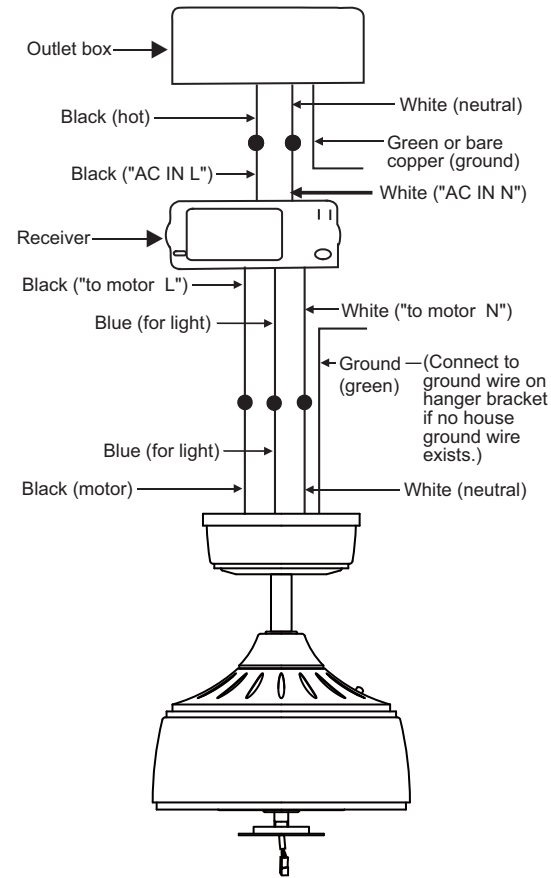

Fig. 14
Step 2. Motor to Receiver Electrical Connections: (Fig. 14) Connect the black wire from the fan to the black wire marked "TO MOTOR L" on the receiver. Connect the white wire from the fan to the white wire marked "TO MOTOR N" on the receiver. Connect the blue wire from the fan to the blue wire marked "FOR LIGHT" on the receiver. Secure all the wire connections with the plastic wire nuts provided.
Step 3. (Fig. 14) Receiver to House Supply Wires Electrical Connections: Connect the black (hot) wire from the ceiling to the black wire marked "AC in L" from the receiver. Connect the white(neutral) wire from the ceiling to the white wire marked "AC in N" from the Receiver. Secure the wire connections with the plastic wire nuts provided.
Step 4. (Fig. 14) If your outlet box has a ground wire (green or bare copper) connect it to the fan ground wires; otherwise connect the hanging bracket ground wire to the mounting bracket. Secure the wire connection with a plastic nut provided. After connecting the wires, spread them apart so that the green and white wires are on one side of the outlet box and black and blue wires are on the other side. Carefully tuck the wire connections up into the outlet box.